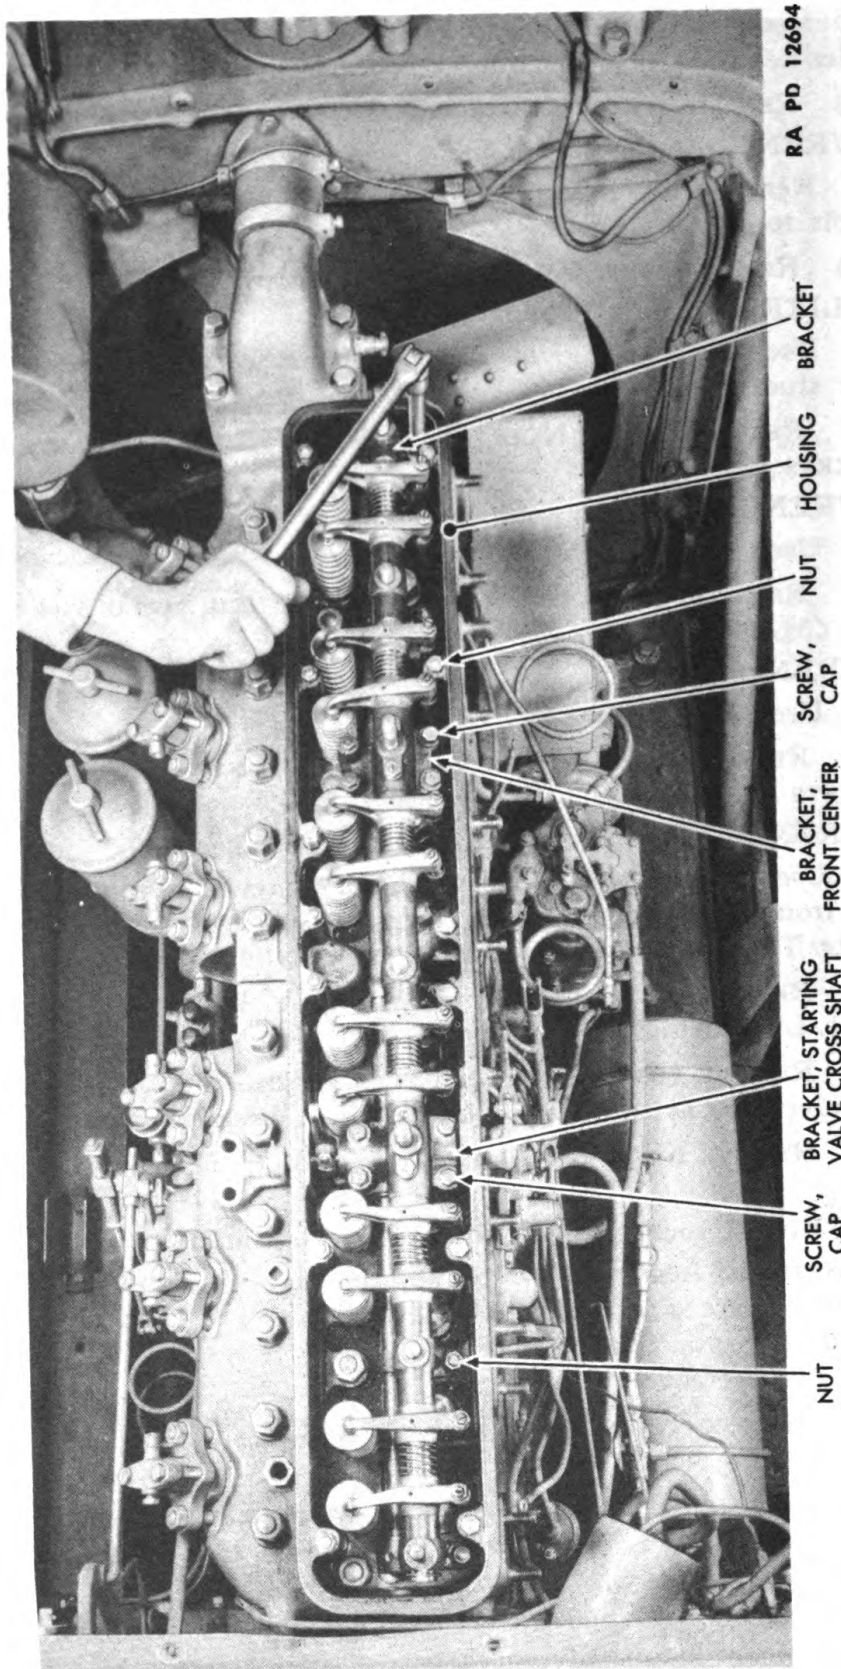

Figure 65—Removal of Valve Lever Shaft Bracket Nuts from Valve Shaft Bracket
(16) REMOVE STUD NUTS FROM RIGHT SIDE OF VALVE SHAFT BRACKETS (fig. 65).
(17) REMOVE 12 NUTS FROM STUDS WHICH HOLD HOUSING IN PLACE (fig. 65).
(18) REMOVE CAP SCREWS FROM CROSS SHAFT AND FRONT CENTER BRACKETS (fig. 65).